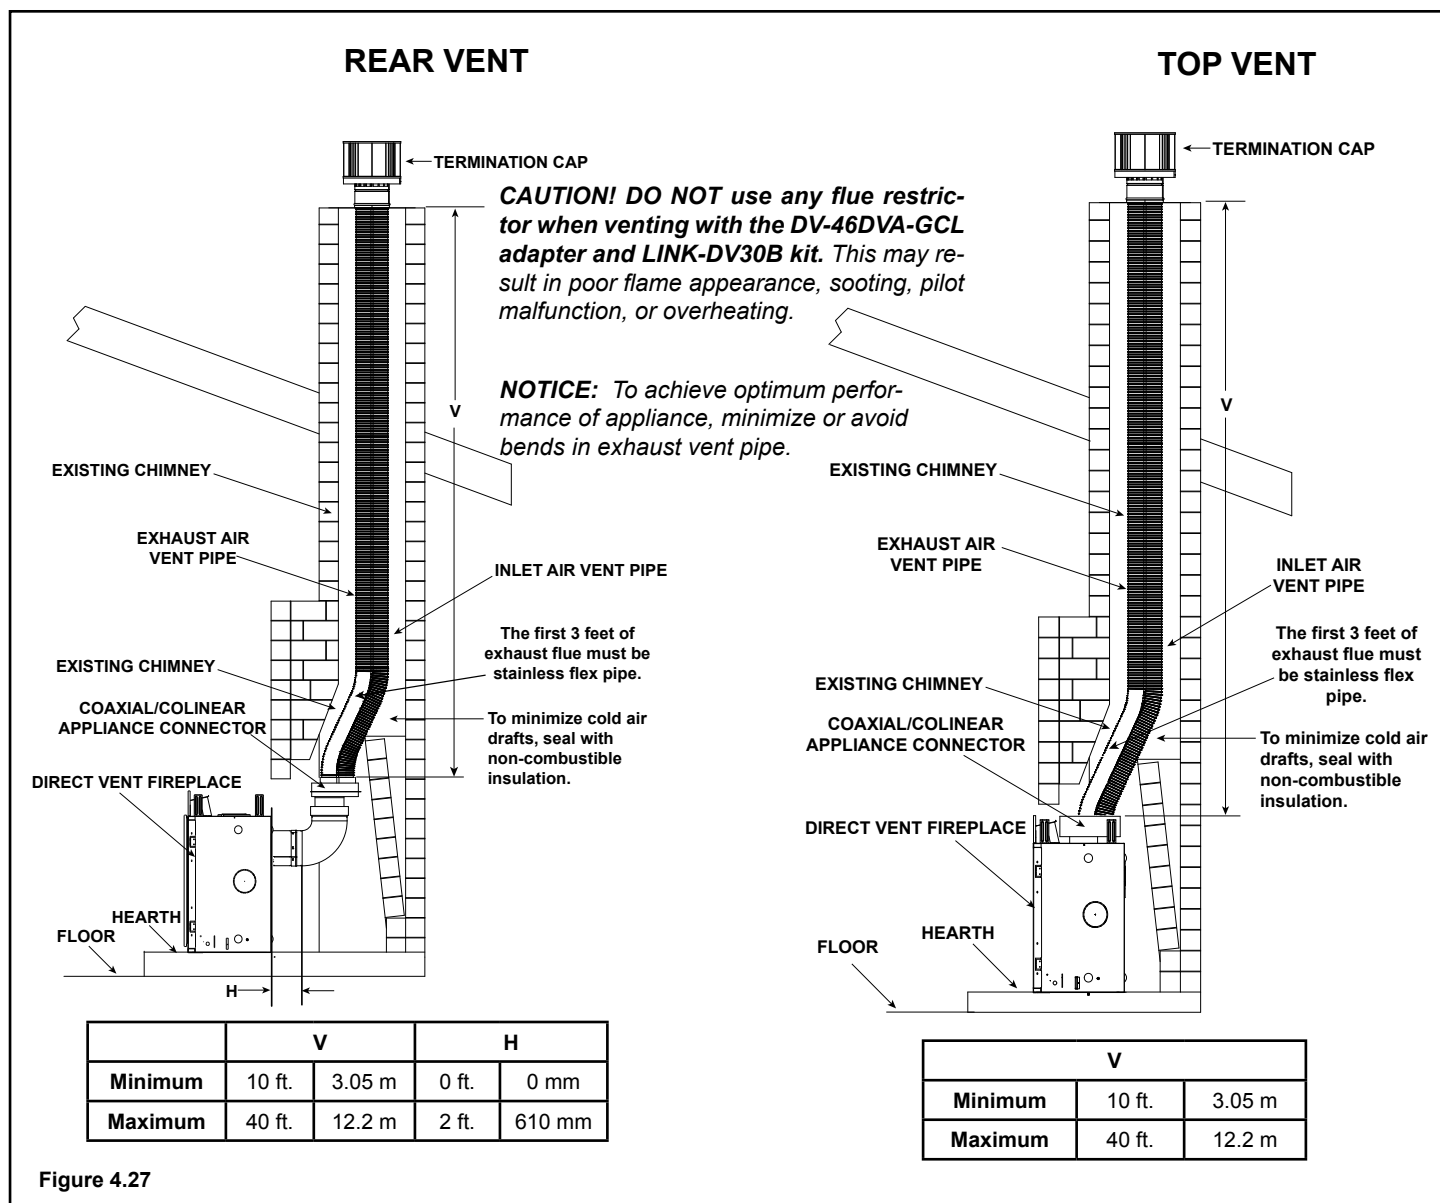

Figure 4.27
- Remove top seal cap and insulation if equipped. See Section 6, "Appliance Preparation." Attach the DV-46DVA-GCL adapter to the appliance starting collar with 3-1/2 in. self-tapping screws. See Figure 4.27.
- Remove the rear seal cap and insulation if equipped. Connect the DVP-2SL adapter to the vertically positioned elbow. Follow installation instructions included with DVP-2SL kit. Secure DV-46DVA-GCL adapter to DVP-2SL with 3-1/2 in. self-tapping screws. See Figure 4.27.